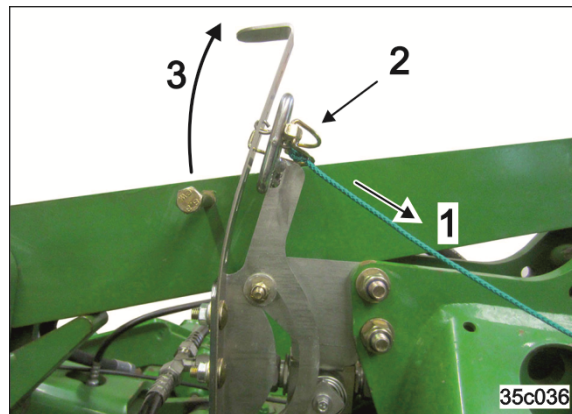

Fig. 134
1. Actuate the white pull rope and pull the eyelet through the hole (Fig. 134/1).
2. Lock the eyelet with the spring cotter pin (Fig. 134/2).
3. The actuation hook is fixed in the front position and is not caught by the actuation bolt (Fig. 134/3).